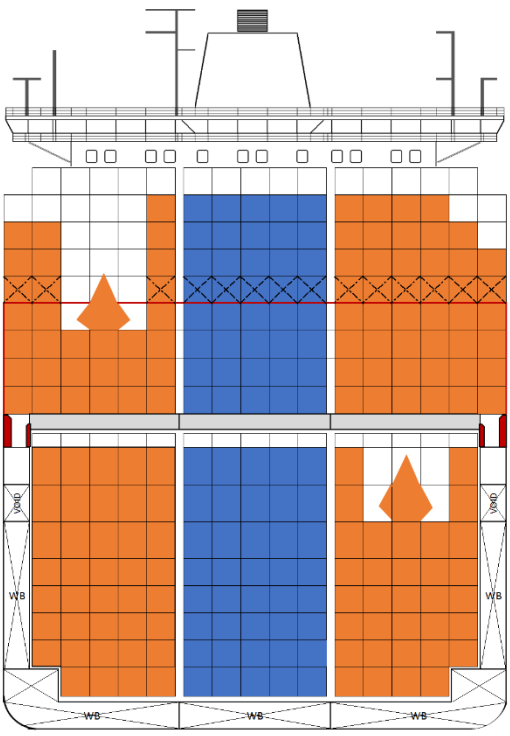

Fig. 13
- See fig.13 (Orange is first Port of Discharge, Blue is the second Port of Discharge)